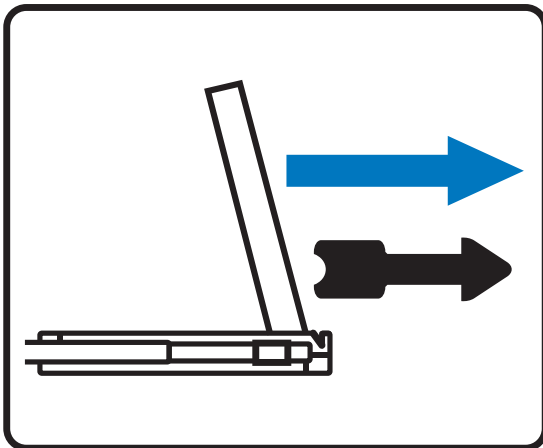

Figure 10..
- Pull and hold the black arrow button on either side of the LCD drawer to unlock. (shown in **Figure 10**).